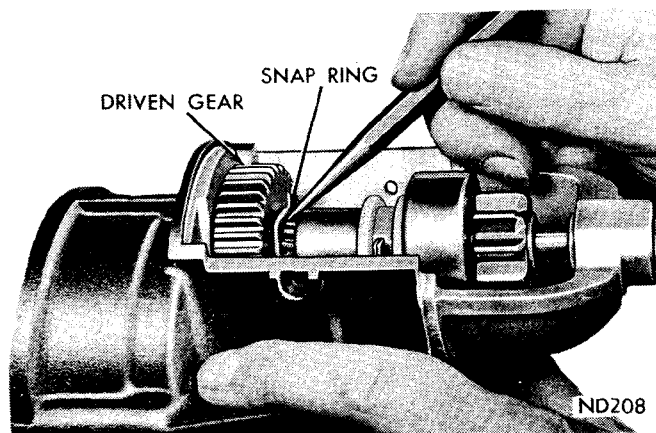

Fig. 15—Removing Driven Gear Snap Ring
(16) Release retainer clip that positions driven gear on pinion shaft (Fig. 15).
(6) Install driven gear snap ring (Fig. 15).